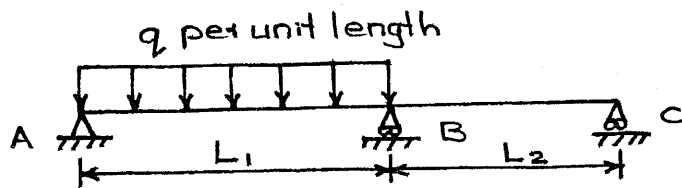

Fig. Q-5
- (c) Determine the value of collapse load  $q_c$  for the continuous beam shown in Fig.Q-5, where the fully plastic moment is  $M_p$ . (14 marks)